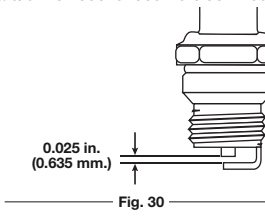

Fig. 30
3. Replace a cracked, fouled or dirty spark plug. Set the air gap at **0.025 in. (0.635 mm)** using a feeler gauge (Fig. 30).